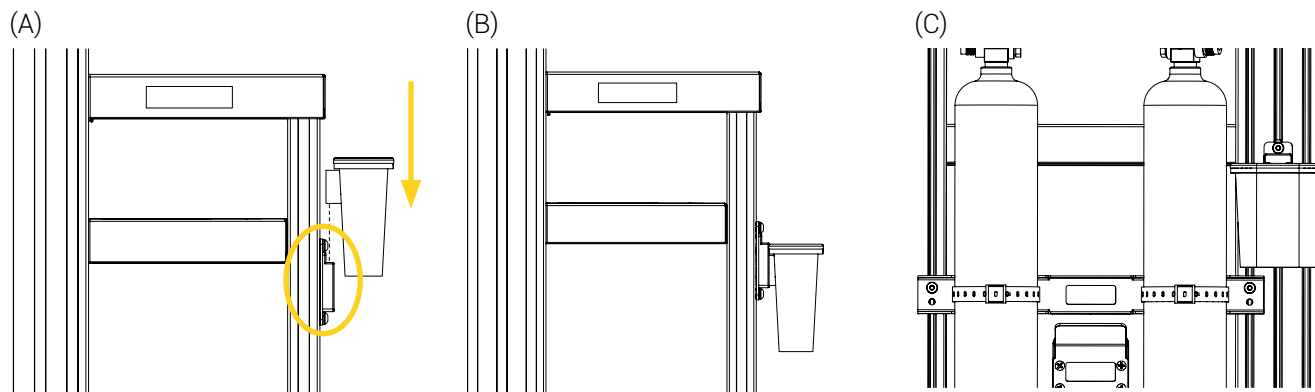

Figure 12 : Installation of the Serres suction canister (side and front of the cart illustrated)
1. Insert the built-in bracket of the Serres suction canister in the support plate, until it has reached the bottom of the support plate (Figure 12).